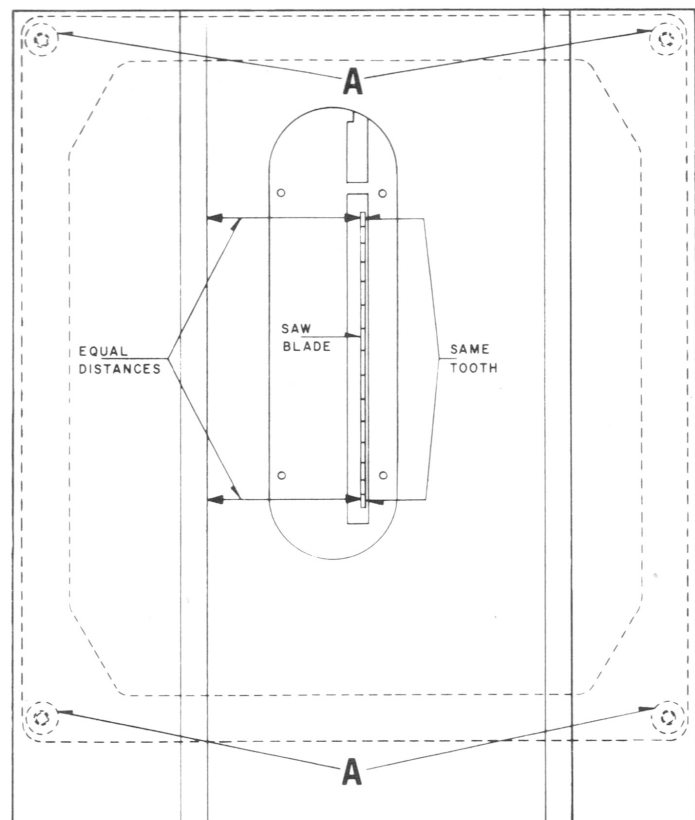

Fig. 25
Fig. 25, shows a simple method of checking the alignment. Be sure to make the test on the same tooth in both front and rear position. If an adjustment is necessary, loosen the four hexagon head cap screws (A) of the cabinet, and shift table at front or rear until a position is found which brings the saw blade in the center of the insert slot and parallel to the miter gage slot. Tighten the screws securely to prevent the table from shifting.